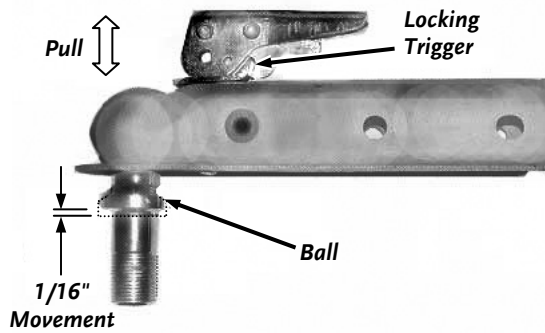

Figure 72
1. Place the proper size ball in the socket of the coupler and close the latch assembly (**Figure 72**). Verify that the locking trigger is properly engaged in its detent.